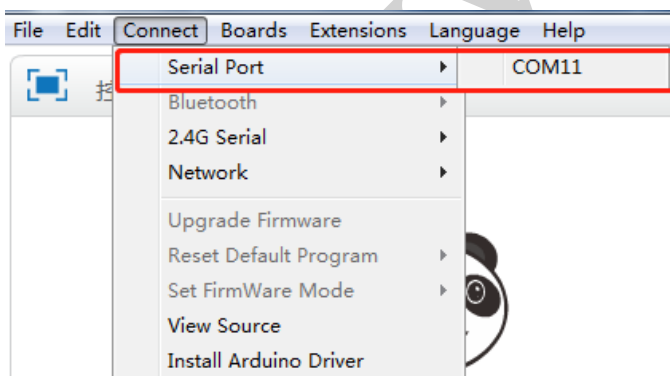
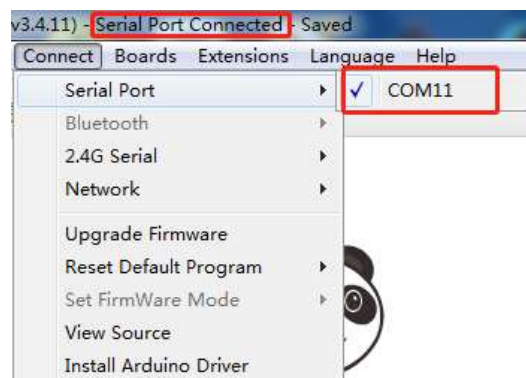

Figure 2-11
Figure 2-12
- 3) Click “Connect→Serial port→COM4 (the number of COM port is different for different computers)”, as shown in Figure 2-11. After the correct connection, there will be a “Serial port connected” prompt at the top of the software. The mblock and Hummer-bot are successfully connected, as shown in Figure 2-12.